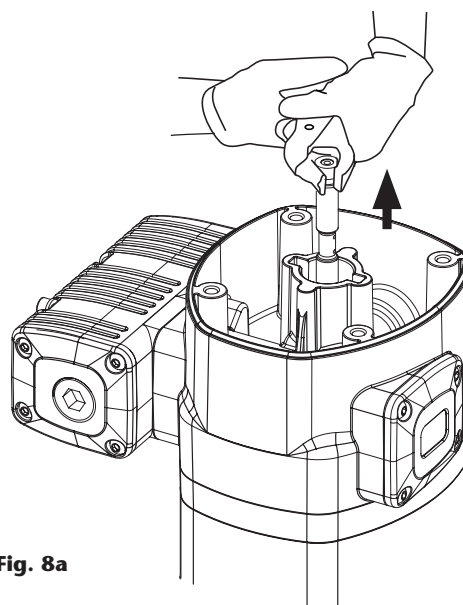

Fig. 8a
1. Unscrew the bolts (D) and remove the cap (B).
2. Unscrew the sensor sleeve (C).
3. With a manual clamp on the nut (D), pull the rod (O) outwards until its central recess appears (Fig. 8a). Then, with another manual clamp, grab the rod (O) on said recess to prevent sealing surface to be damaged, and unscrew the nut (D) (Fig. 8b).
4. Remove o-ring (E) and ring (F), and replace them with new ones later.
5. Unscrew the bolts (R). Pull the motor body (J) outwards to free it along with bridle (L).
6. Take away the gasket (G) and replace its seals (H) and (I).
7. Unscrew the bolts (M) and split the motor (J) from the bridle (L). Take away the washer (K) and replace the seal (H).
8. Take away the cylinder (N) while carefully holding the air piston (Q). Replace the piston seal (P).
9. Reassemble in reverse order, applying thread locker in screws (M), nut (D) and sensor sleeve (C).